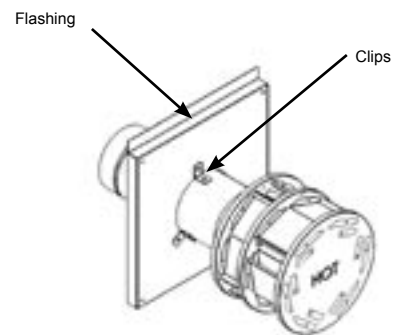

Figure 17
7. Attach the Vent Cap, note orientation of embossment, to the extended pipe. Use high temperature (500 F/260 C) silicone sealant between all pipe joints. See Figure 17.